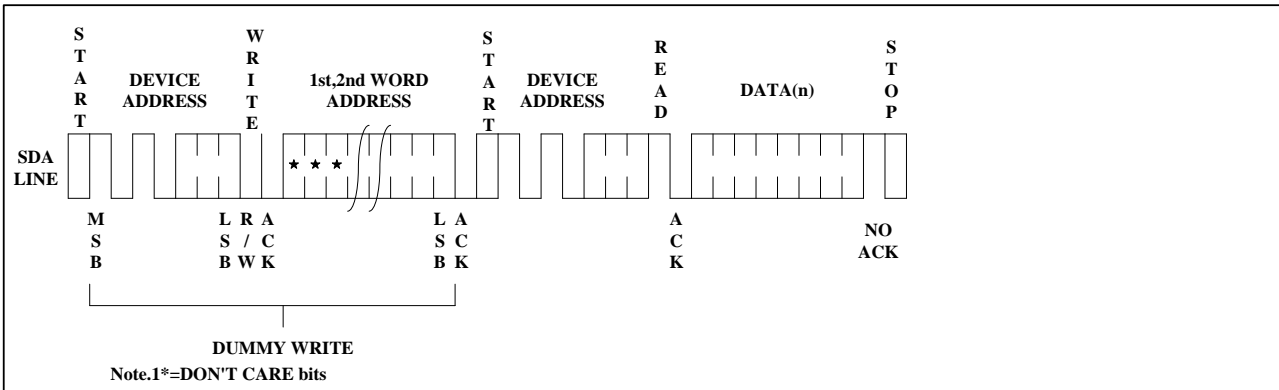

Figure 10. Random Read
**RANDOM READ:** A random read requires a "dummy" byte write sequence to load in the data word address. Once the device address word and data word address are clocked in and acknowledged by the EEPROM, the microcontroller must generate another start condition. The microcontroller now initiates a current address read by sending a device address with the read/write select bit high. The EEPROM acknowledges the device address and serially clocks out the data word. The microcontroller does not respond with a "0" but does generate a following stop condition (see **Figure 10**).